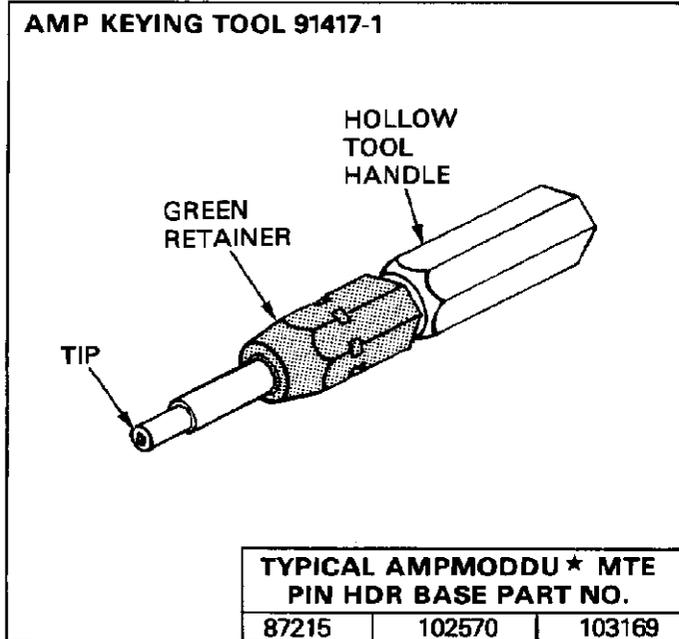

Fig. 1
This instruction sheet (IS) covers AMP Keying Tool 91417-1, which is shown in Figure 1. Read this material thoroughly before starting.
### 2. DESCRIPTION (Figure 1)
AMP Keying Tool 91417-1 is designed to remove .025 square pin contacts from AMPMODU MTE pin headers, such as those listed in Figure 1. The tool features a hollow tool handle, a tool tip, a green tip retainer, and a gage bushing (inside retainer). For further information regarding AMPMODU MTE Connectors, refer to AMP Instruction Sheet IS 6919.